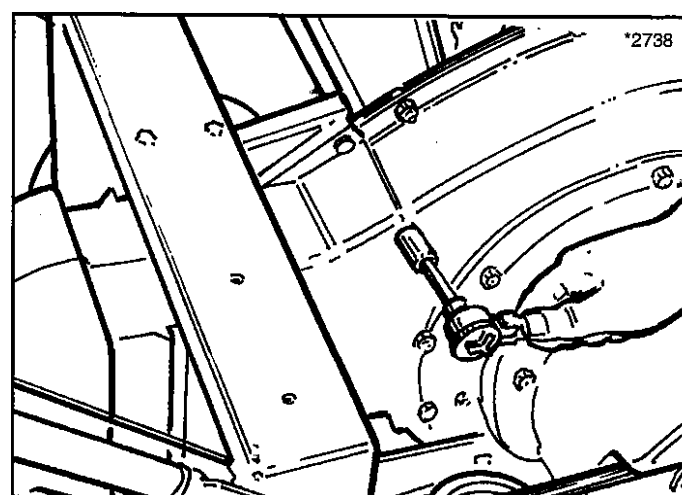

Figure 34. Loosen Discharge Tube Hex Nuts
8. Loosen the discharge tube hex nuts on the right side of the discharge tube, providing approximately 1/8" clearance between the hex nut and the tube (Figure 34).